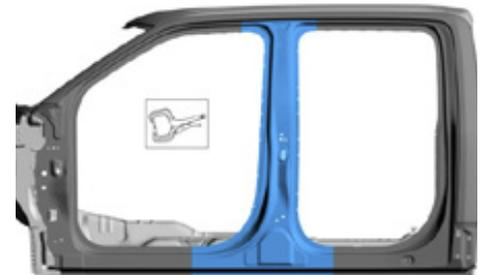

Figure 2
5. Install the service panel and clamp in position. **(Figure 2)**